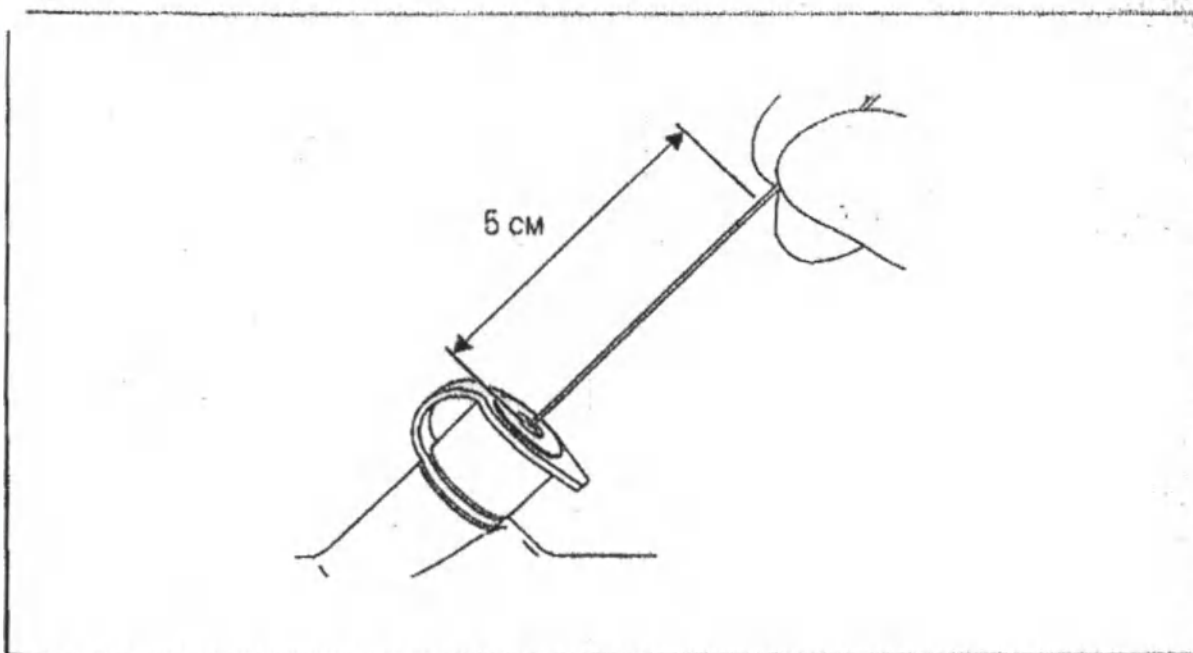

Fig.18.
1. Make sure that the distal end of the endoscopic device is closed or drawn into the insertur. When using biopsy forceps, completely close the cups at the tip. At the first introduction, some resistance will be felt. Grab the rod at a distance of about 5 cm from the end and push it inside. (see Fig.18)